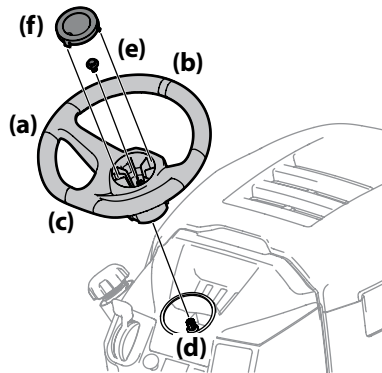

Figure 2-15
1. With the wheels of the tractor pointing straight forward, align the steering wheel (a) by using the center-line (b) on the front of the steering wheel (a) pointing straight ahead and the flat section (c) of the steering wheel (a) facing toward the seat, place the steering wheel (a) over the steering shaft (d). See Figure 2-15.